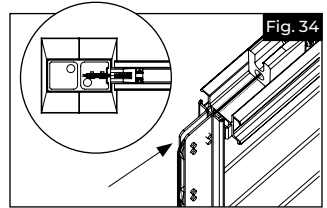

Fig. 34
- Make sure the cable is rounding the last turn of the guide by looking down the post (Fig. 34). Pull all slack through the tensioner. Also ensure the tension spring stays in place in the beam at the post before pulling tight.